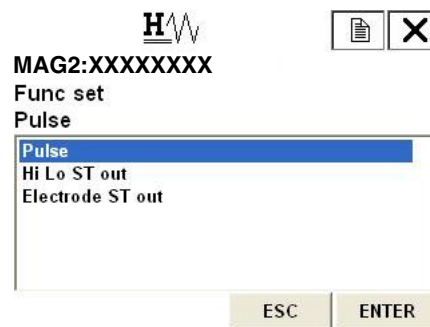

Figure 75.
Figure 75 is then displayed.
2. Once the display as shown in Figure 75. appears, move the arrow key up or down to select a display. After making a selection, press F4 (ENTER). Pulse (pulse output), Hi Lo ST out (contact output), or Electrode ST out (contact output) can be selected. If F3 (ESC) is pressed here, the selection is canceled and the display returns to the basic menu.